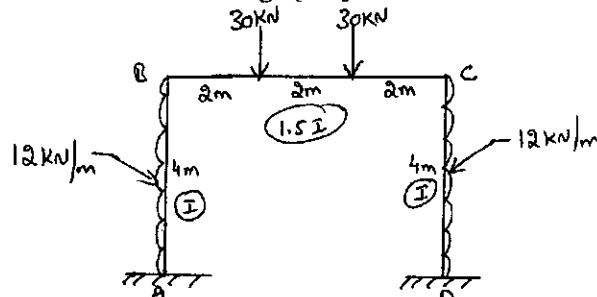

Fig.Q4
- 4 Analyze the frame shown in Fig.Q4 by moment distribution method. Draw BMD.